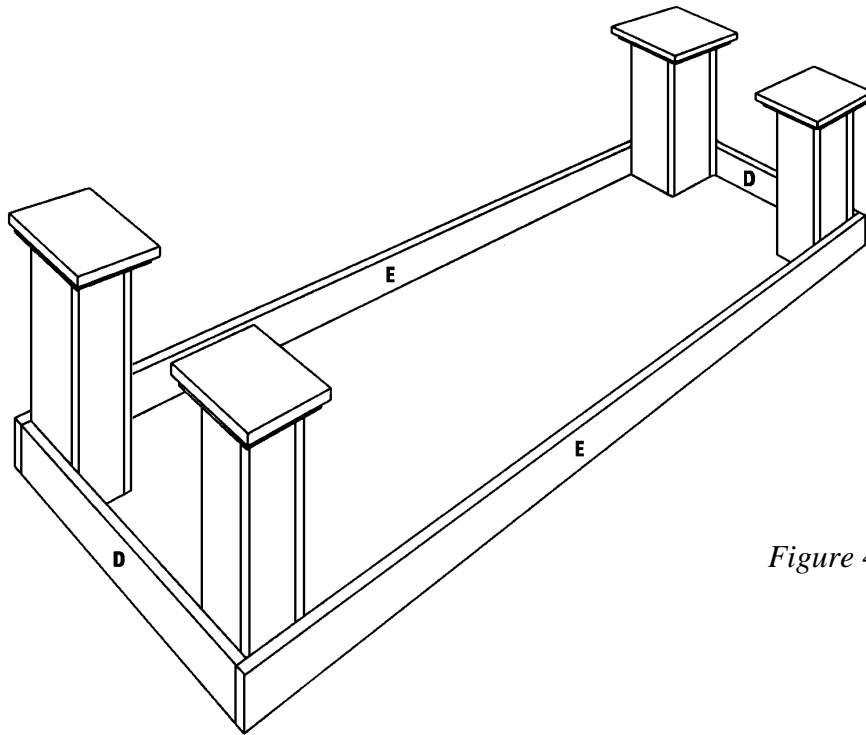

Figure 4
1. Cut two Short Base Sides (D), each measuring 21-1/2 inches.
2. Cut two Long Base Sides (E), each measuring 47 inches.
3. Place the two short Base Sides (D) on edge, parallel to each other and 45-1/2 inches apart. Place the two Long Base Sides (E) over the ends of the two Short Base Sides (D) to form a rectangle, as shown in *Figure 4*.
4. Place the legs upside-down inside each corner of the assembled base frame, as shown in *Figure 4*. Apply glue to the meeting surfaces and attach the legs to the base frame using two 1-5/8" wood screws on each side of each leg. Screw through the base frame into the legs.